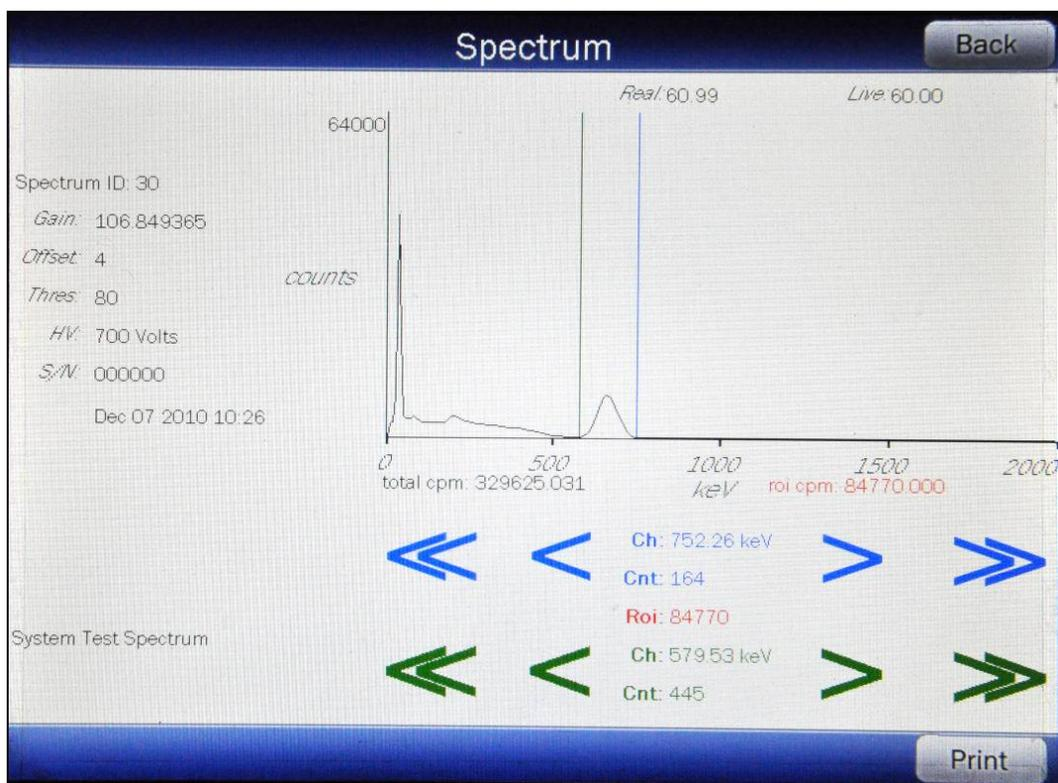

Figure 10-15 Spectrum Screen
To view the spectrum for a specific measurement (**Background (B)**, **Standard (W)**, **Whole Blood (S)** or **Plasma (L)**), touch the blue highlighted count rate box beside the desired measurement. The Spectrum Screen (similar to Figure 10-15 Spectrum Screen) will appear.